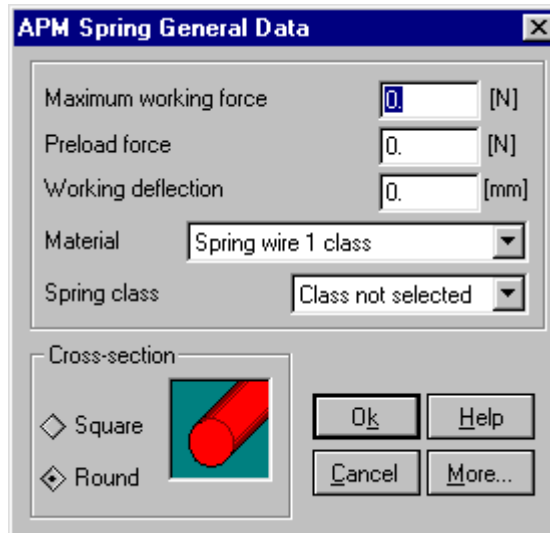
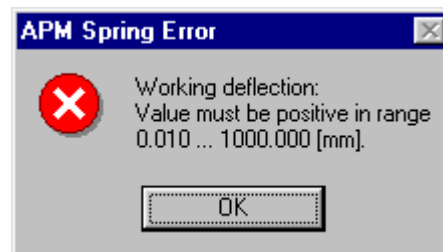

Fig. 5.9 The dialog box for Compression Spring data input.
Fig. 5.10 The error message.
**Data** command displays the dialog box for initial data entering. The number of parameters to be entered depends on the type of spring to be calculated. As an example, in Fig. 5.9 the dialog box for entering initial data for compression spring is shown. In this window there are *Cross-Section* groupbox and *Material* list. Type of cross-section is shown as pictogram. The warning message window will be displayed in case of some input error (Fig.5.10).